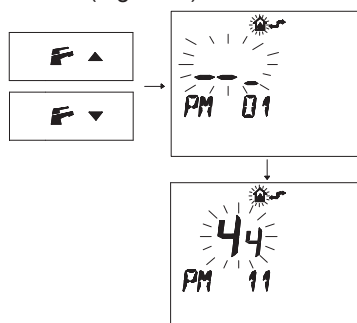

Fig. 8.20
- Press buttons **F** and **▲** or **F** and **▲** to display the "PM11" program of the pump post-circulation (Fig. 8.20).